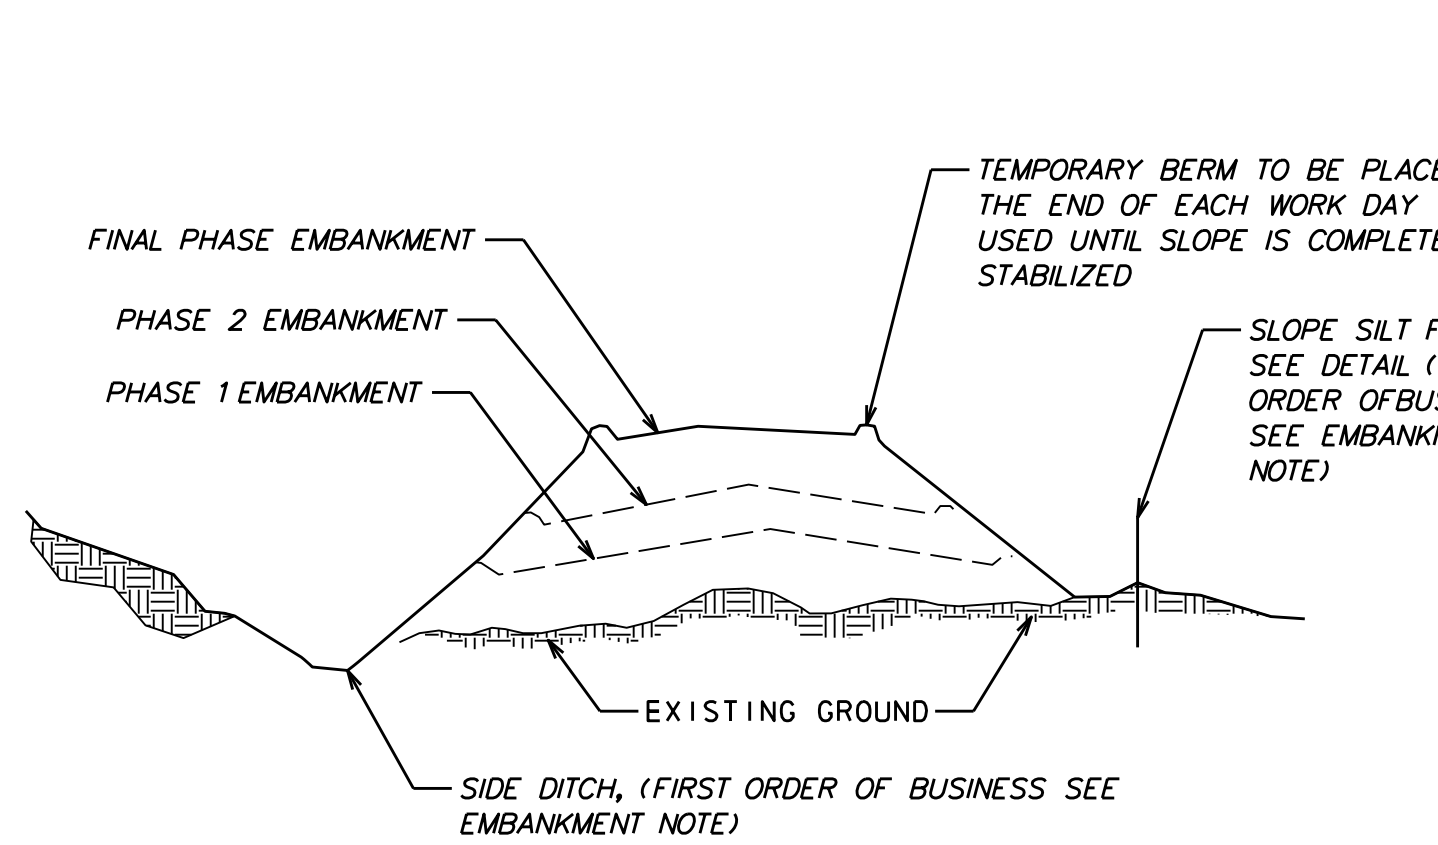

FIGURE B.2 INCREMENTAL STABILIZATION - FILL
4. CONSTRUCTION SEQUENCE EXAMPLE (REFER TO FIGURE B.2):